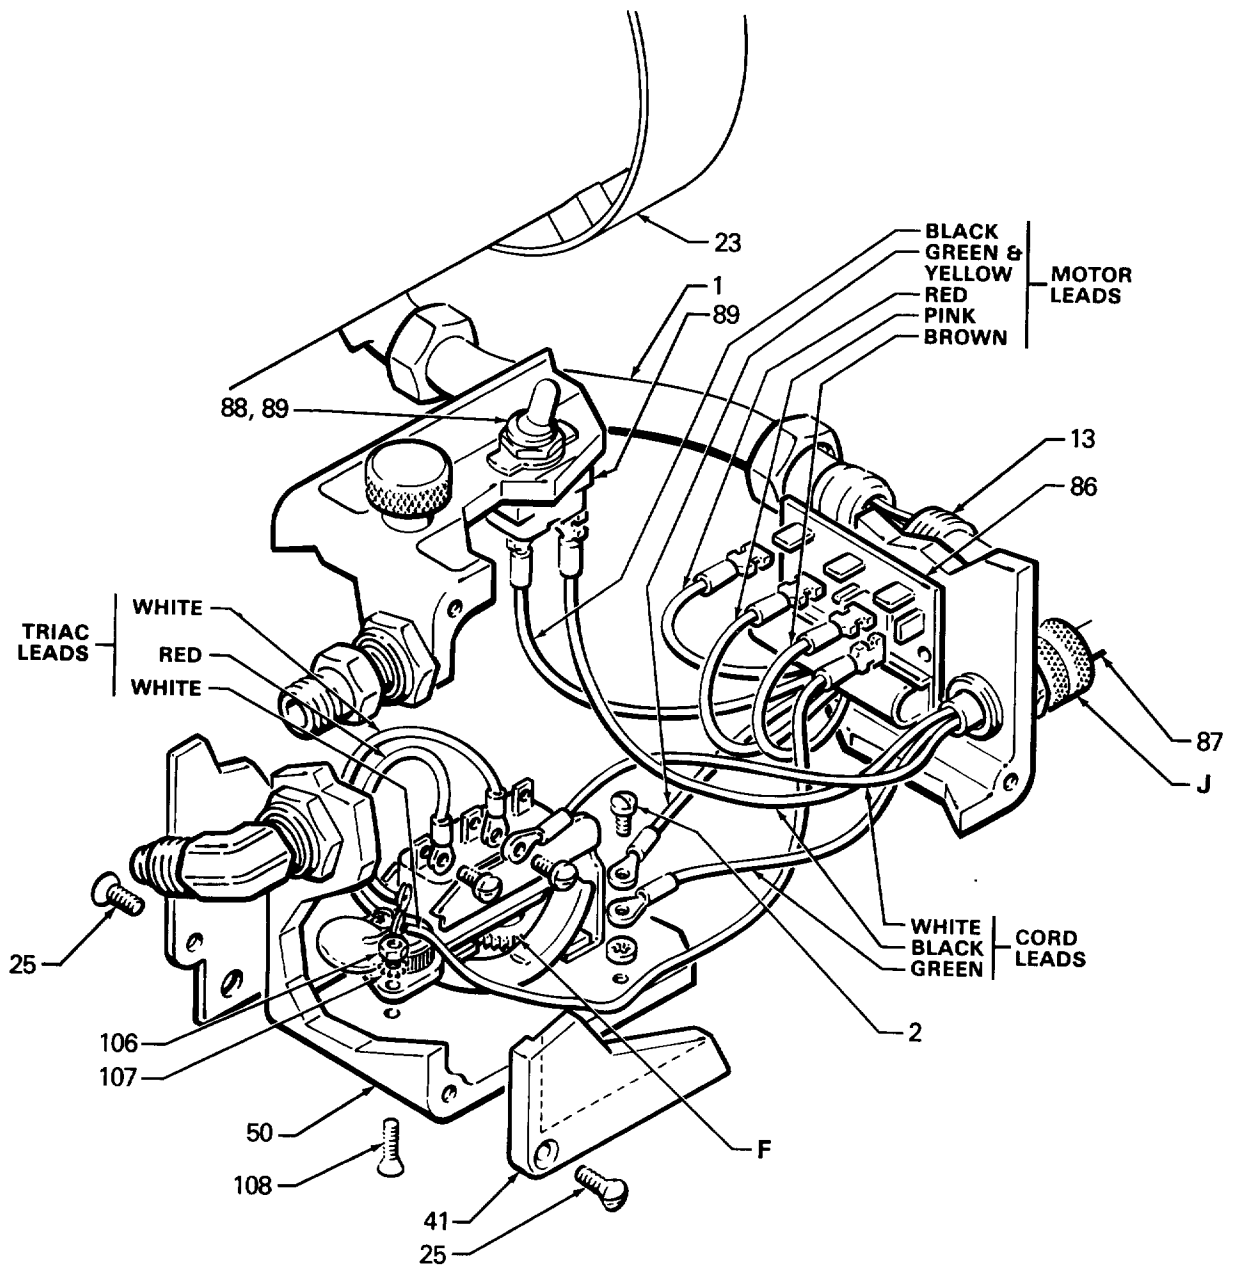

Fig 24
Remove screws (25) and cover (41) from pressure control (50). See Fig 24.
Disconnect red, pink and brown motor leads from circuit board (86). Disconnect green and yellow motor lead from grounding screw (2), and black motor lead from toggle switch (89). See Fig 24.
Unscrew nut on end of conduit (1) from connector (13). See Fig 24. Pull pressure control (50) away from conduit while carefully guiding wires through connector (13).
Loosen knurled part of power cord strain relief (J), and unscrew it from pressure control. Slide strain relief up on power cord to provide clearance, and unscrew conduit connector (13). See Fig 24.
If the circuit board (86) is all that needs to be replaced in the pressure control, remove the screws (25) and the front cover (41). See Fig 24. Pull the board out carefully, just far enough to reach the wire terminals. Unsnap the wires and finish removing the board.
Position the new card at the control so the wire connectors are at the top. Following the color coded diagram in Fig 24, snap the wires onto the board. Carefully guide the wires back into the control, making sure they don't get caught on anything, then slide the new board into place. Check the pressure control calibration. See page 22.